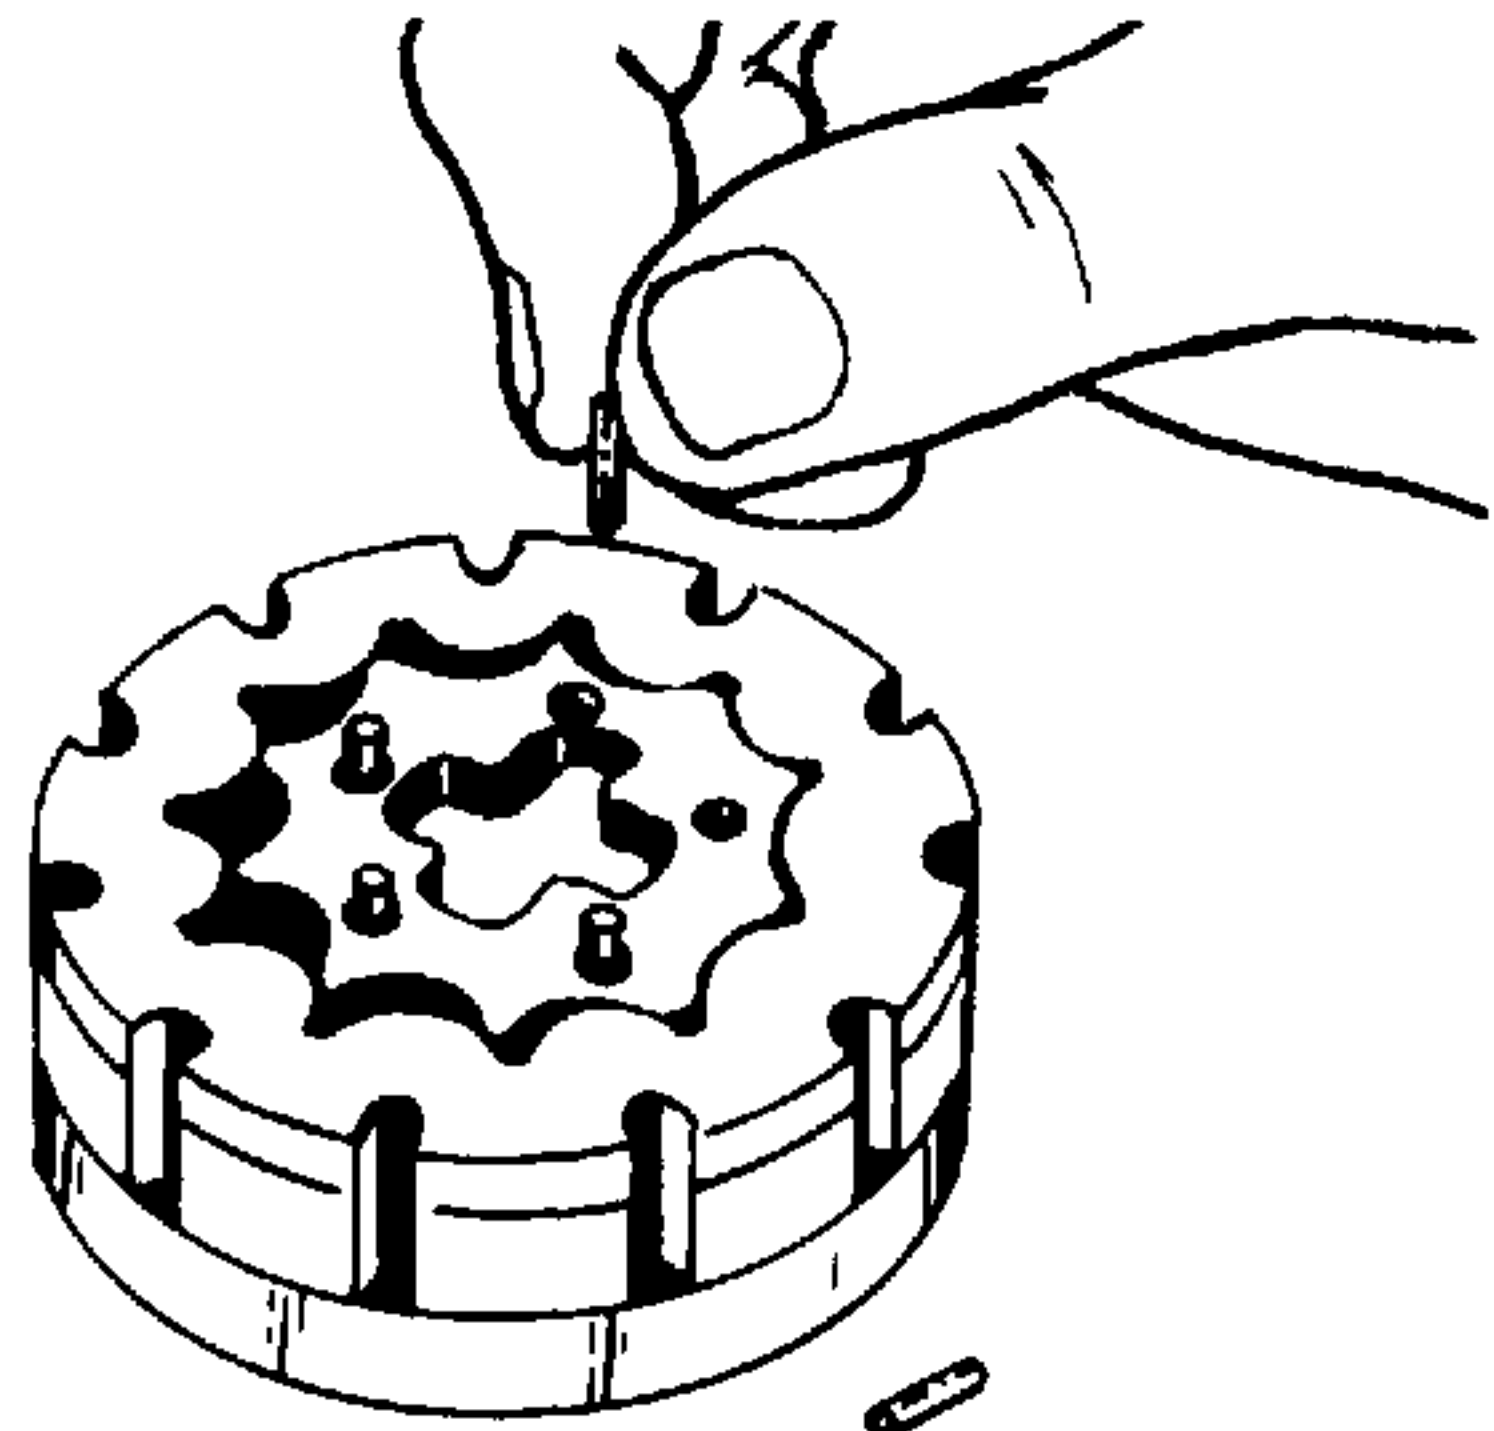

Figure 4-28. Removing Needle Rollers.
31. Remove the five needle rollers (11). See Figure 4-28.